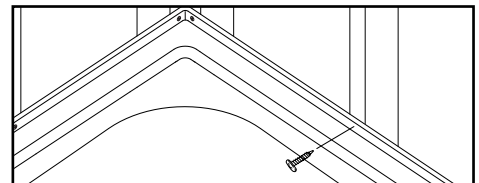

FIGURE 5. Run a screw through bathtub flange at each stud location.
- e. Once leveled, screw bathtub flange to all studs (Fig 5).